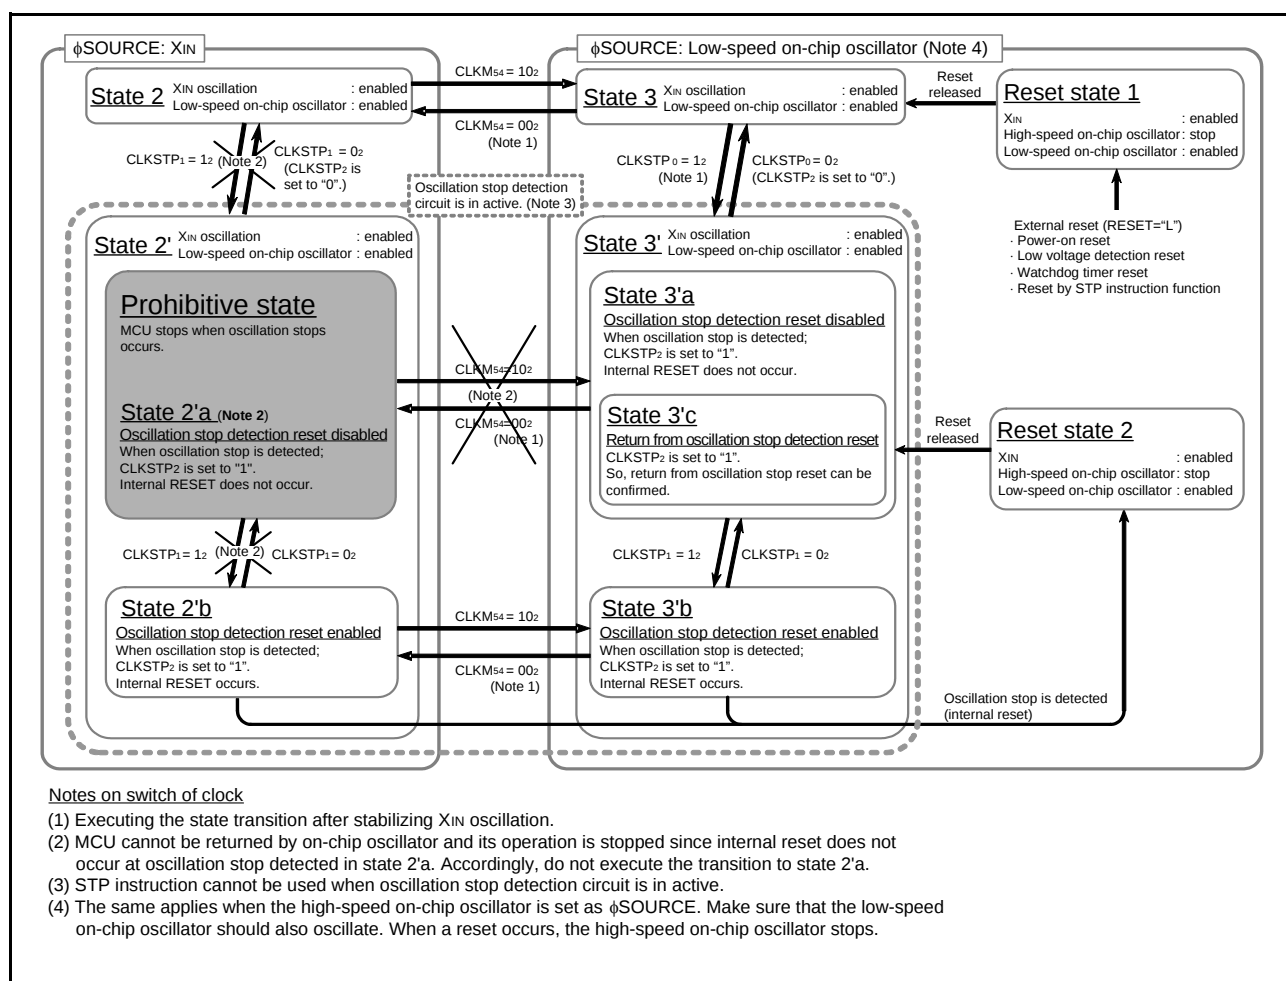

Fig 69. State transition of oscillation stop detection circuit
- (1) Do not execute the transition to “state 2’a” shown in Figure 69 State transition of oscillation stop detection circuit. In this state, no reset is triggered and the MCU is stopped even when the XIN oscillation stops.
- (2) After an oscillation stop detection reset, if this reset is enabled while bits XIN oscillation stop detection function active and oscillation stop detection status are retained, a reset is triggered again.
- (3) The oscillation stop detection status bit is initialized under the following conditions:
- (4) While the oscillation stop detection function is in active, the oscillation stop detection status bit may set to 1 when the watchdog timer underflows or by a reset when the STP instruction is executed with the STP instruction function selection bit set to 1.
- (5) The oscillation stop detection circuit is not included in the emulator MCU “M37549RLSS”.